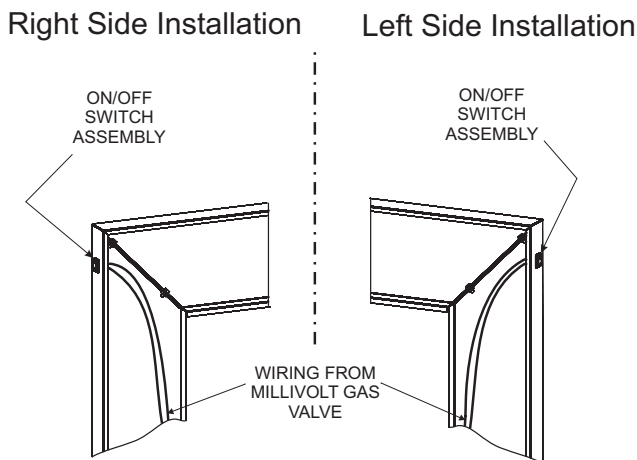

Figure 13
3. Run the low voltage alternate switch wires up the back of the right or left surround panel. Then secure the wires with wire clips provided. See Figure 13.